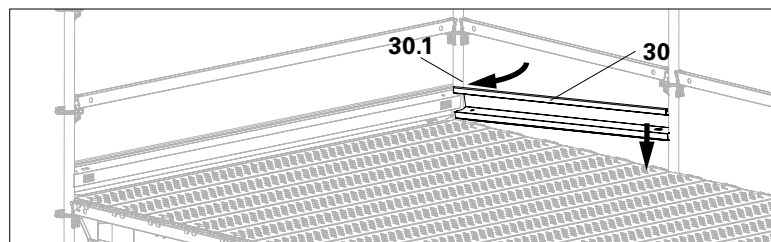

Fig. A5.04a
- Insert Toeboard UPY (30) from the outside-left first of all using the large tube cut-out (30.1). (Fig. A5.04a)